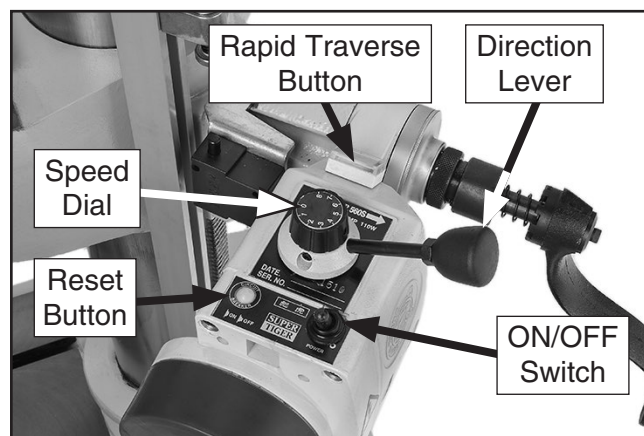

Figure 39. Power feed controls (Z-axis shown).
2. Turn speed dial (see **Figure 39**) all the way counterclockwise to slowest setting.
3. Move direction lever to neutral (middle) position, then move ON/OFF switch (see **Figure 39**) to ON position.
4. With your hand poised over ON/OFF switch in case you need to suddenly turn unit **OFF**, move direction lever (see **Figure 39**) to select desired direction of table travel.
5. Use speed dial (see **Figure 39**) to slowly bring speed of movement up to desired rate.
To cause table to instantly move at full speed when already in motion, press rapid traverse button (see **Figure 39**). The table will resume previous speed when button is released.